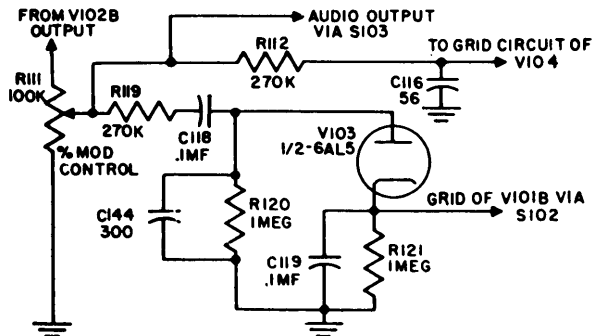

Figure 2-6. Simplified Schematic Diagram of the Modulation Diode
b. MODULATION DIODE. (See figure 2-6).
(1) The modulation diode (V-103) is a type 6AL5 dual diode with only one tube section used. It rectifies the modulating voltage. This rectified voltage is then applied to the grid of the voltmeter bridge tube (V-101B) for determination of percentage modulation. The same voltmeter bridge is used for reading percentage modulation as is used for determining carrier output strength. The principal features of the modulation diode are shown in Figure 2-6.
(2) The percentage modulation of the carrier frequency is determined by the modulation voltage applied to the control grid of the buffer-amplifier (V-104). This modulation voltage is taken from the 100, 000 ohm % MODULATION potentiometer (R-111) and applied across the modulation diode (V-103) circuit where it is rectified. Resistors R-119 and R-121 serve as a voltage divider. A part of this rectified audio voltage is taken across R-121 and applied to V-101B when the METER READS switch (S-102) is in the v/o MOD position. Capacitor C-118 blocks the DC grid voltage of V-104 from V-103. Due to the modulation characteristic of the buffer-amplifier circuit, the degree of modulation is a function of audio voltage and independent of the carrier amplitude. This is true in such a grid modulating system when the RF signal amplitude is small with respect to the amplitude of the audio voltage. In this type of circuit, the degree of modulation is a function of the change in